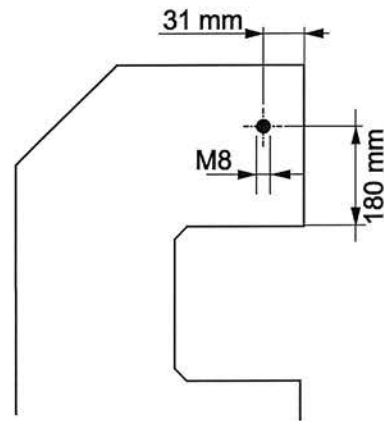

Fig. 2: EXAKT 300 mounting hole
2. Punch mark the bore center as per Fig. 2 and bore a 6.5 mm core hole.